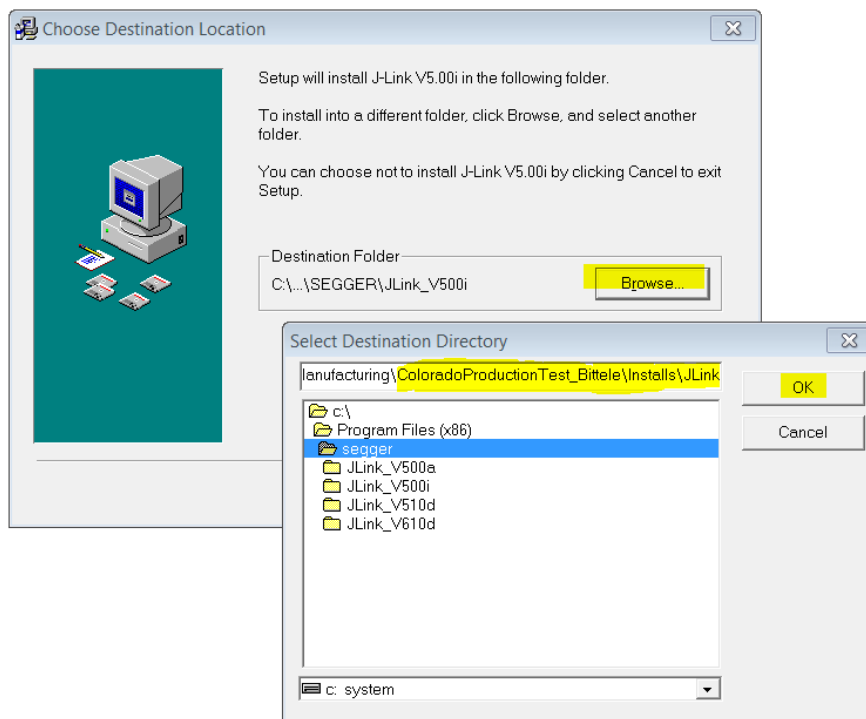

Figure 8: Change the installation path to the JLink folder provided by us.
- c. Follow normal install instructions, however, when prompted to select an installation directory, make sure to install it to the **ColoradoProductionTest_Bittele\Installs\JLink** folder. See Figure 8.